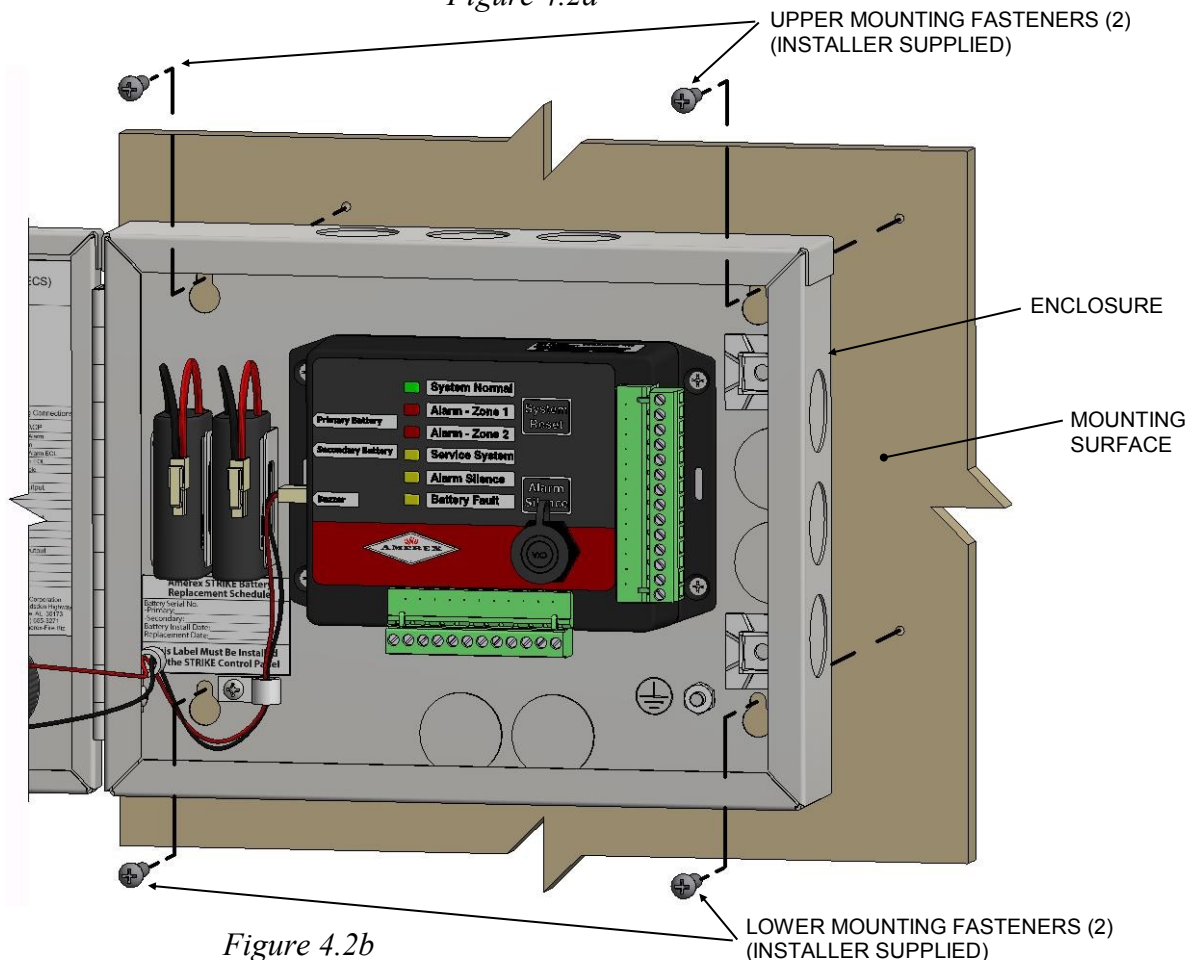

Figure 4.2b
4. Finish the installation by securely attaching the enclosure using appropriate hardware (See Figure 4.2b). **Do NOT connect any batteries or field wiring to the STRIKE™ Control Unit until directed to do so in Section 4.11 and 4.12.**